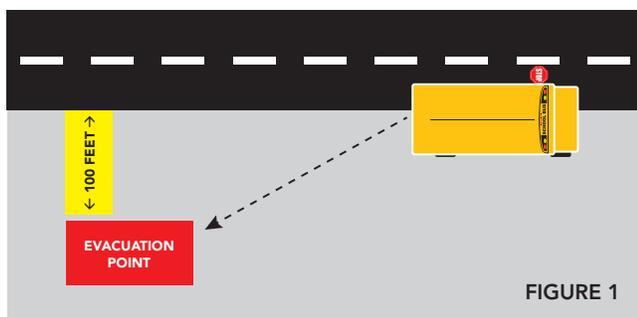

FIGURE 1
- Lead students as far away from railroad tracks as possible and in the direction of any oncoming train at a 45-degree angle away from the tracks. (see figure 1)